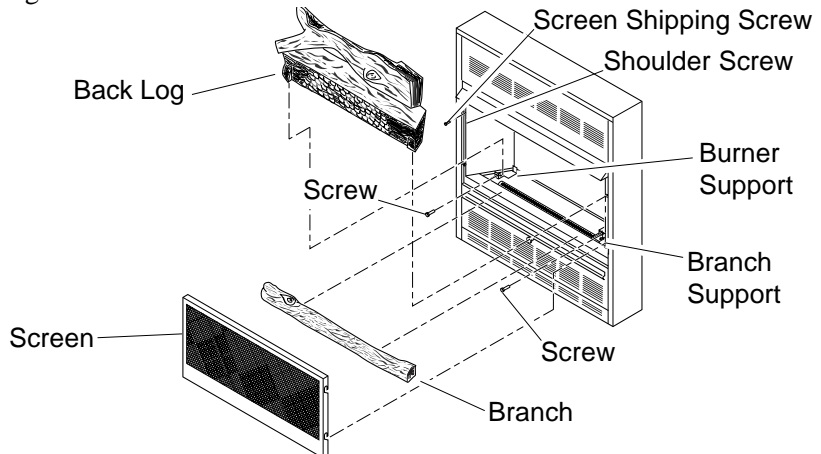

Figure 2 - Assembling Fireplace
2. Remove two shipping screws above screen (see Figure 2).
5. Gently place back log on burner support (see Figure 2). The log should fit flat against top of burner support. Place two #10 one-inch-long screws through burner support into the log and tighten. Place branches on branch support (see Figure 2).
2. Remove two 1-3/4" screws from louver assembly (see Figure 2). Save these screws.